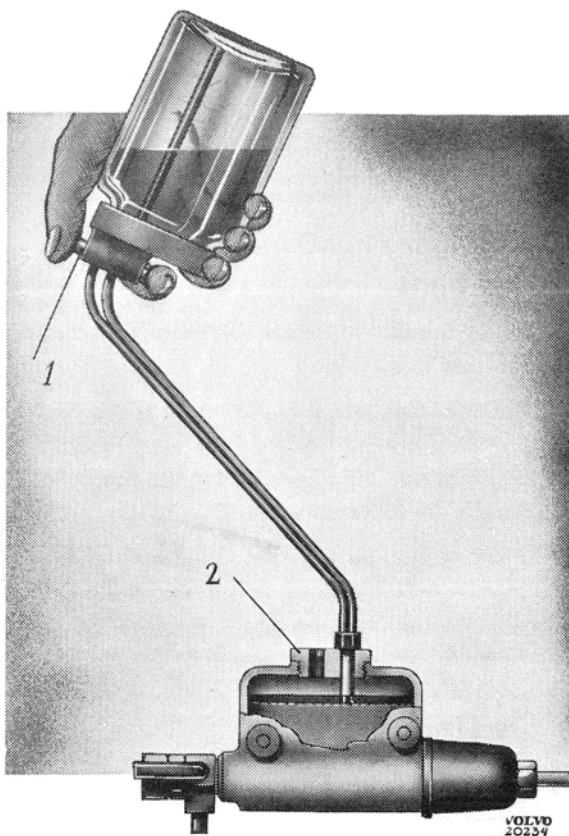

Fig. 29. Filling with brake fluid, early prod.
2. Remove the master cylinder cap with tool SVO 2384 and unscrew the cap on the brake fluid container. If necessary, top up with first-class brake fluid which meets the requirements according to SAE 70 R 3. For a master cylinder of earlier design, it is preferable to use a special filling bottle as shown in Fig. 29. When doing so, screw the plug (2) into the place of the cap. Insert the pipe down through one of the holes in the plug and open the tap (1). The bottle will then keep the fluid level constant and at the correct level during venting.